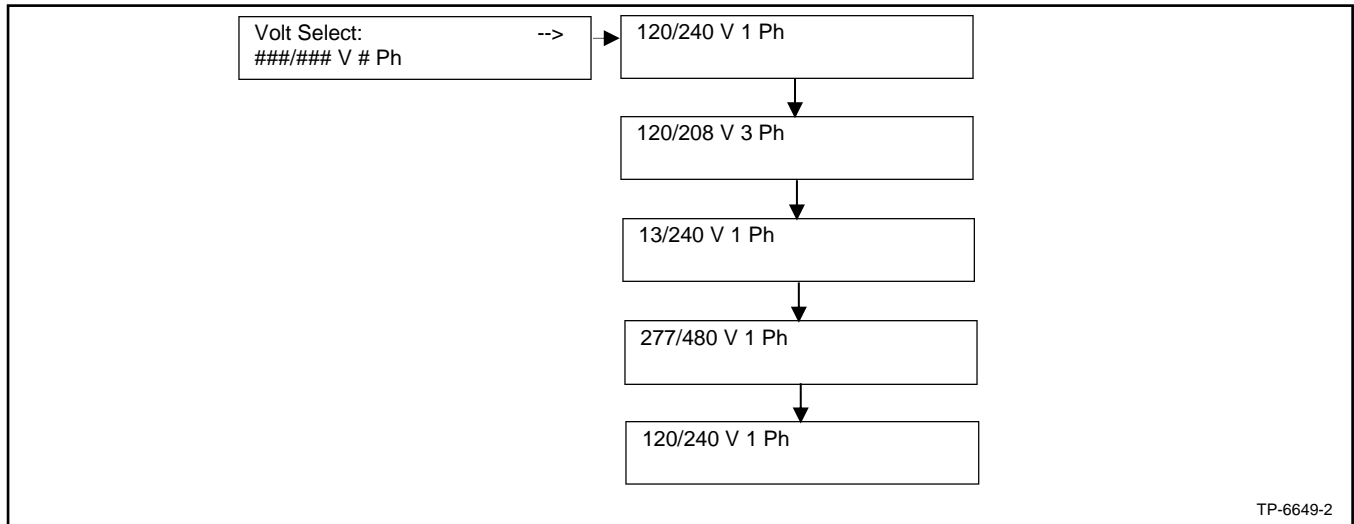

Figure 60 Volt Select Menu
1. Turn the controller pushbutton/rotary selector dial until it stops at the Volt Select menu. See Figure 60